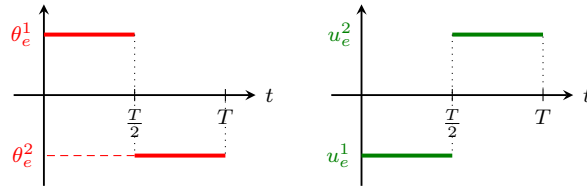

Figure 2: Example of possible desired trajectory for a pendulum system.
*Hint:* define two long constant parts between the two equilibria with a transition in between. Try to keep everything as symmetric as possible, see, e.g., Figure 2.